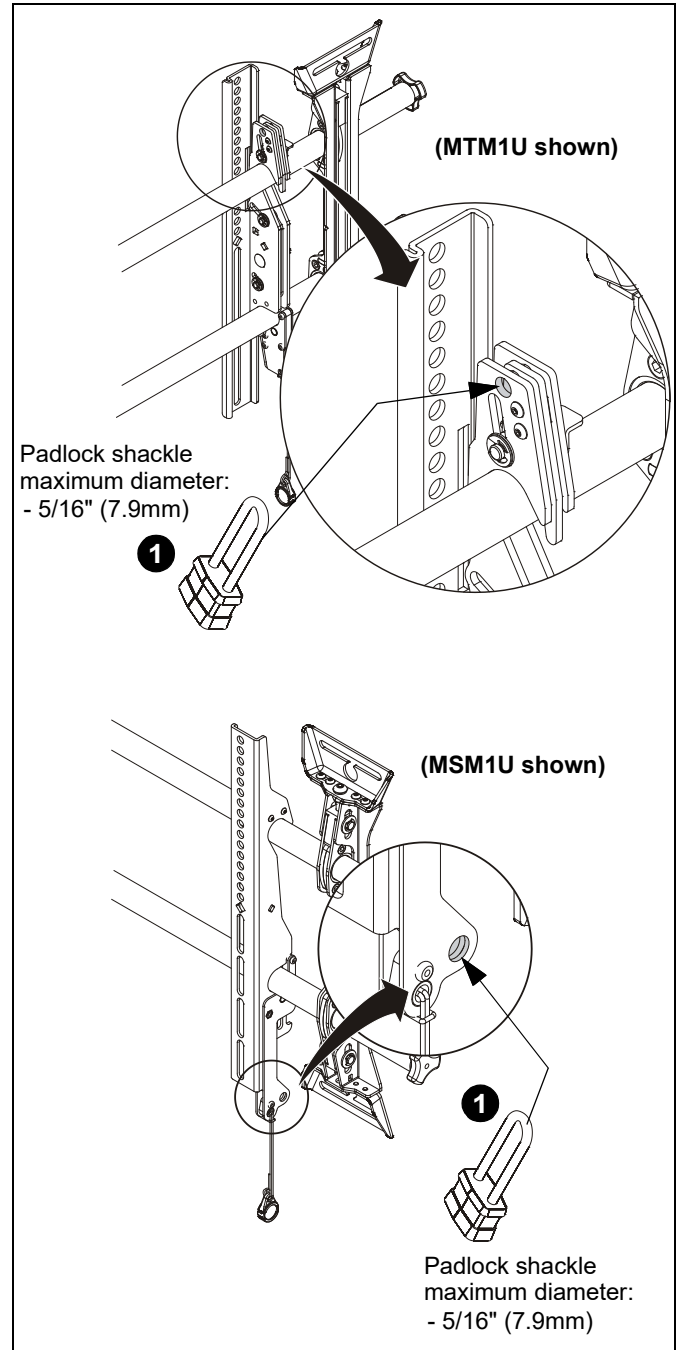

Figure 21
1. Add padlock (not included) to interface bracket to complete security. (See Figure 21)